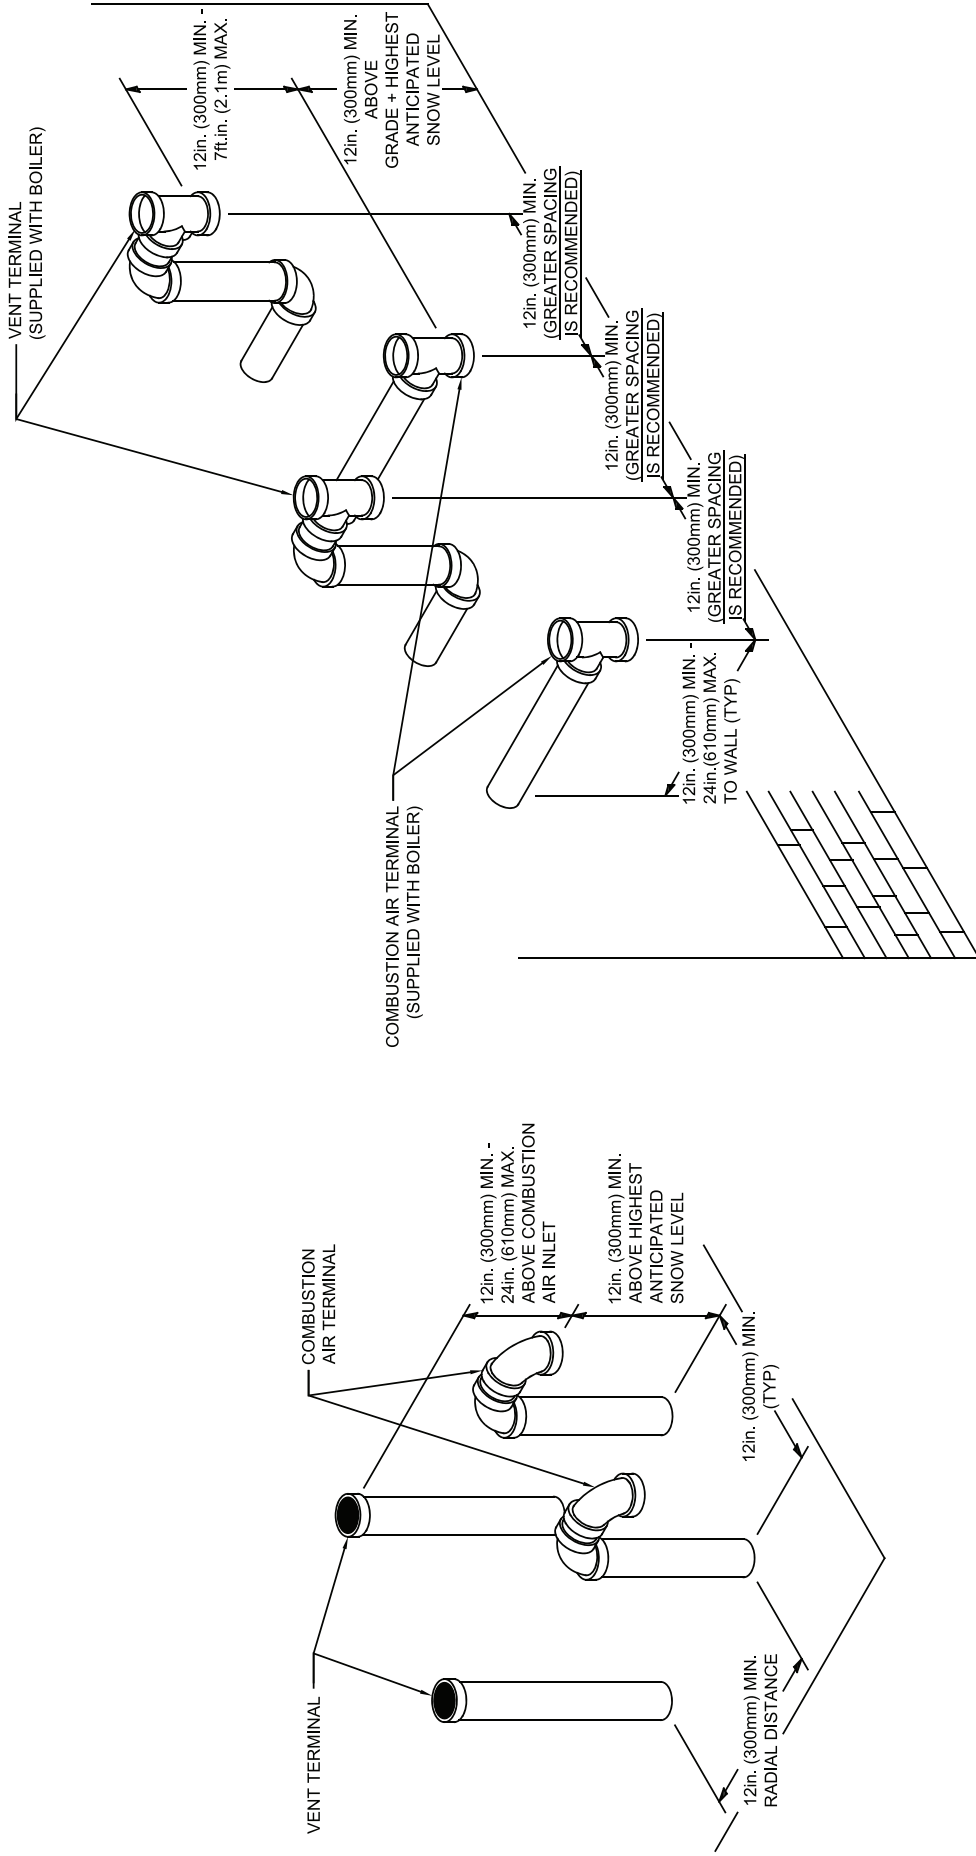

Figure 17: Multiple Boiler Direct Vent Termination
- a. Multiple boiler vent terminations are shown in Figure 17.
- a. Multiple boiler combustion air terminations are shown in Figure 17.